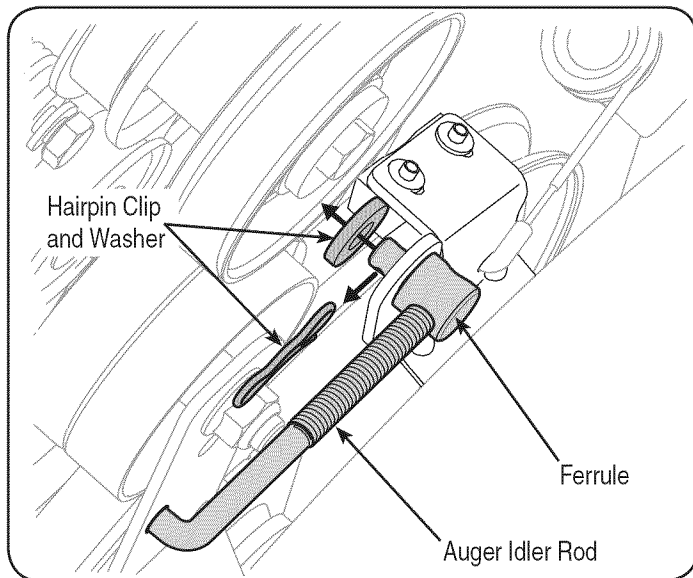

Figure 32
- Remove the bow-tie clip and flat washer from the ferrule in order to disconnect the auger idler rod from the brake bracket assembly. See Figure 32.